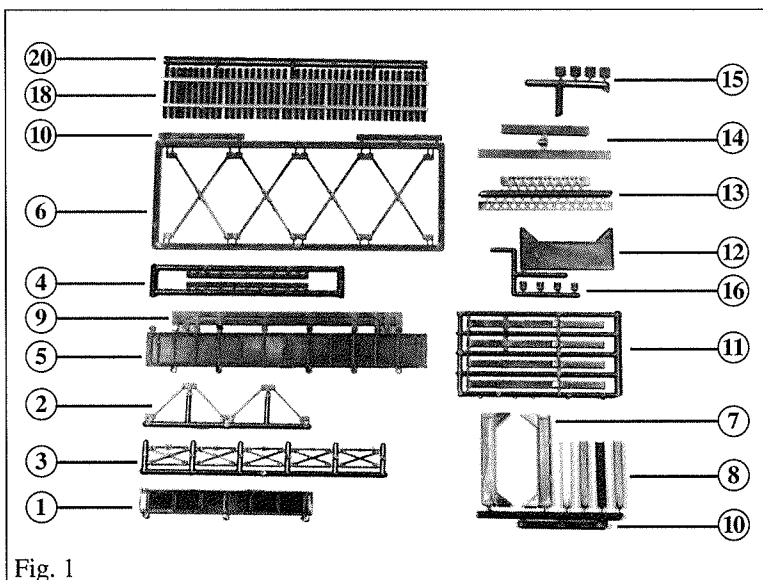

Fig. 1
- The following parts and the number needed to assemble your kit are listed below with most keyed to the drawing (see fig. 1). Extra parts that will not be used may be included in your kit.